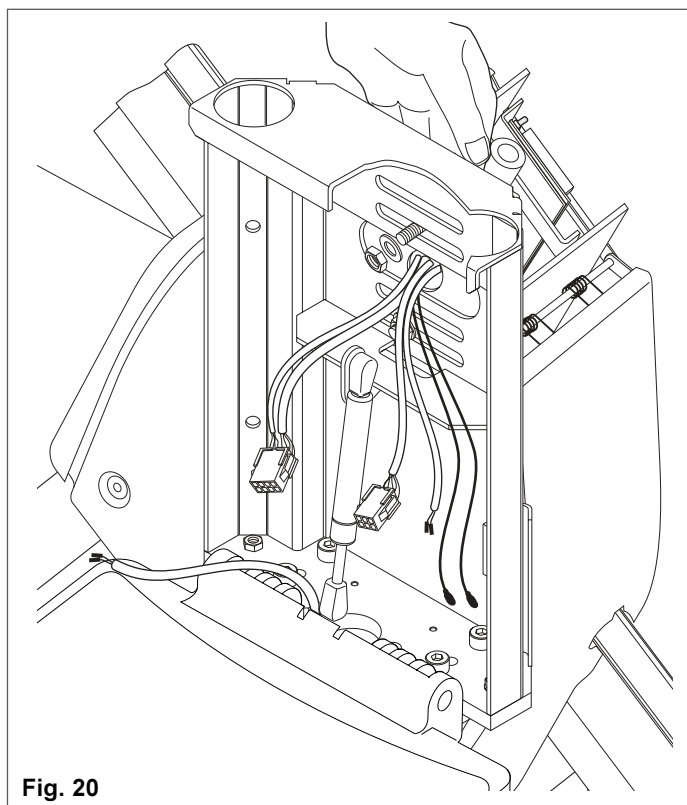

Fig. 20
Note: they also allow the footplate/seat to be adjusted towards or away from the stair tread nose (Fig. 20).
- 2 Offer the seat chassis to the power unit (Fig. 20), and using the nuts, bolts and washers supplied secure the seat chassis to the power unit, ensuring that the chassis is in the correct vertical alignment.